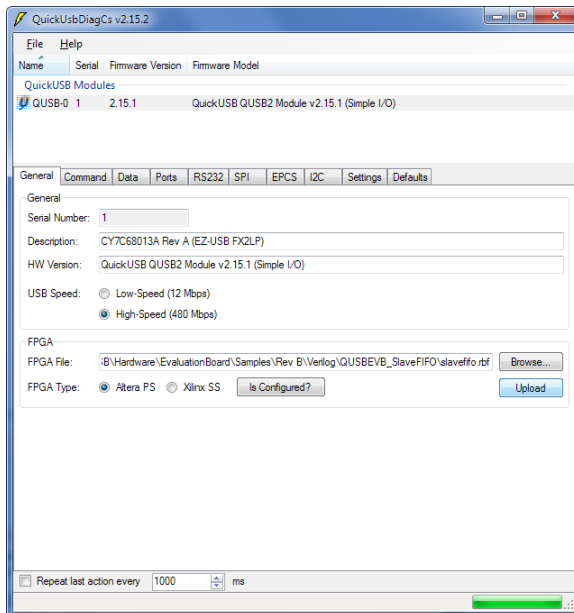

Figure 4 – QuickUSB Diagnostics “General” Tab
- a. Navigate to the “General” tab of the QuickUSB Diagnostics application (see Figure 4)